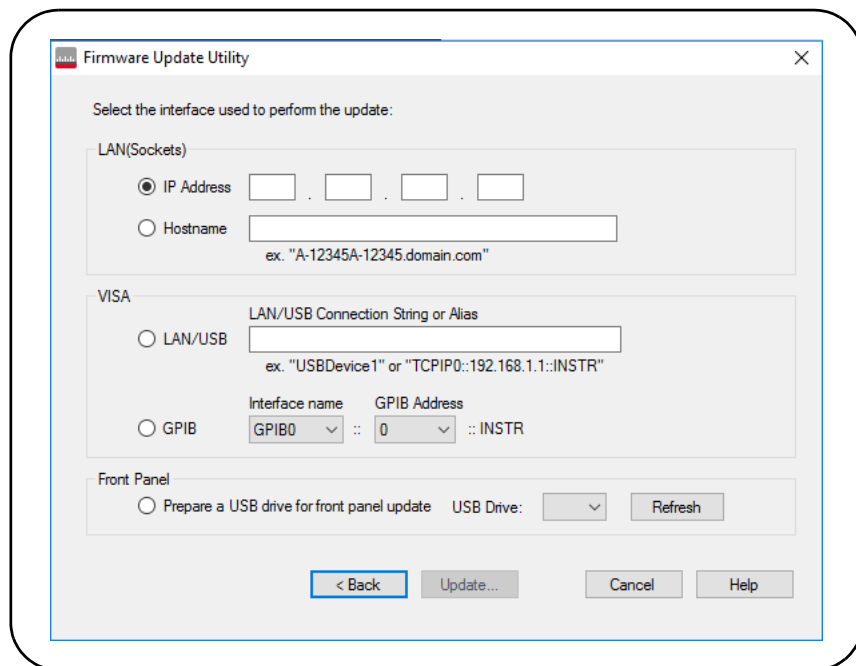

Figure 2-10 Specifying the Address or Host Name.
- 3** Enter the counter's IP address or host name (Figure 2-10). Select 'Update' to start the update process.